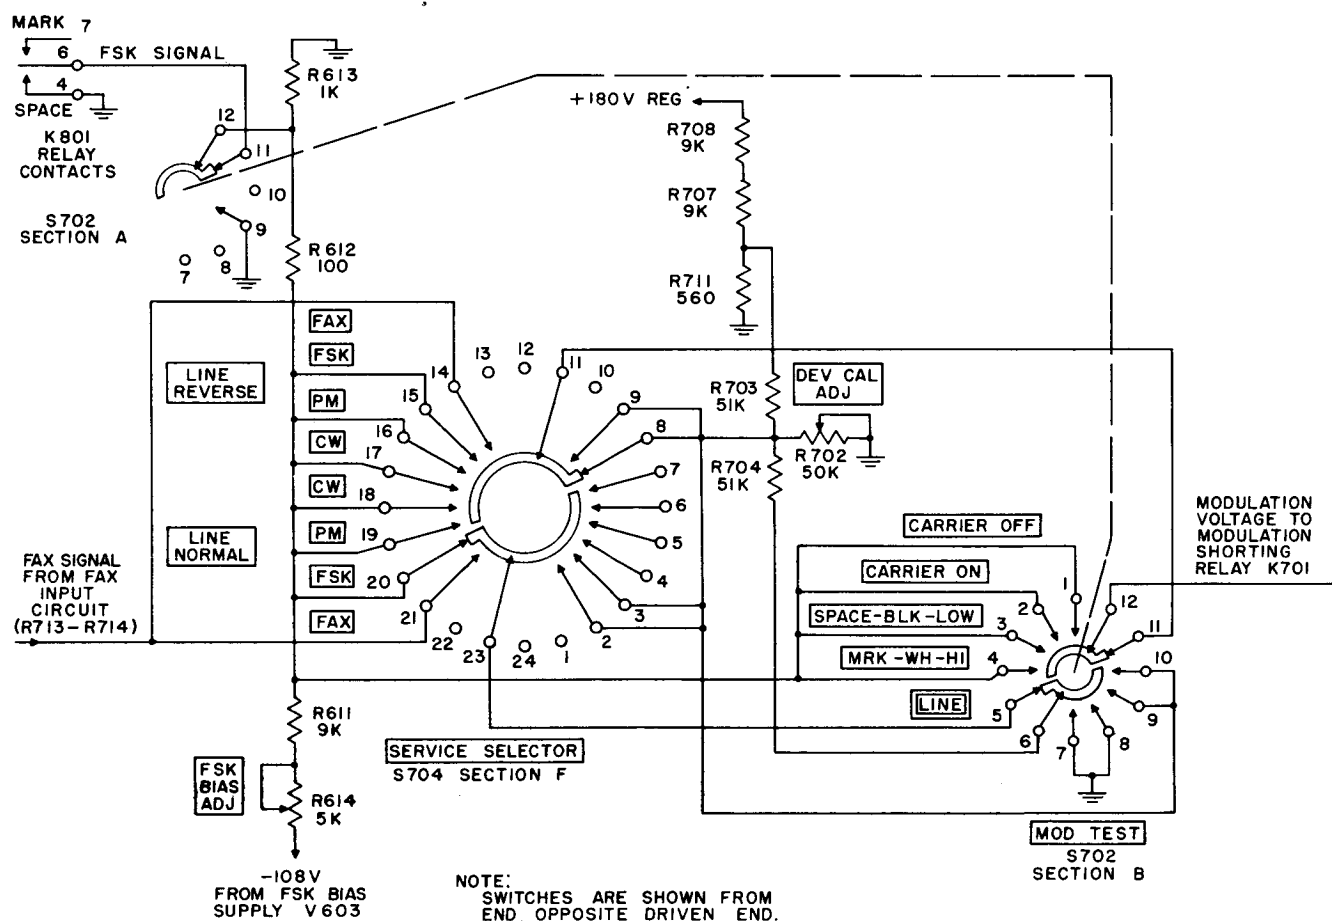

Figure 39. Fsk and fax modulation voltage control circuit, simplified schematic diagram.
72. Fsk and Fax Modulation Voltage Control Circuit (fig. 39)